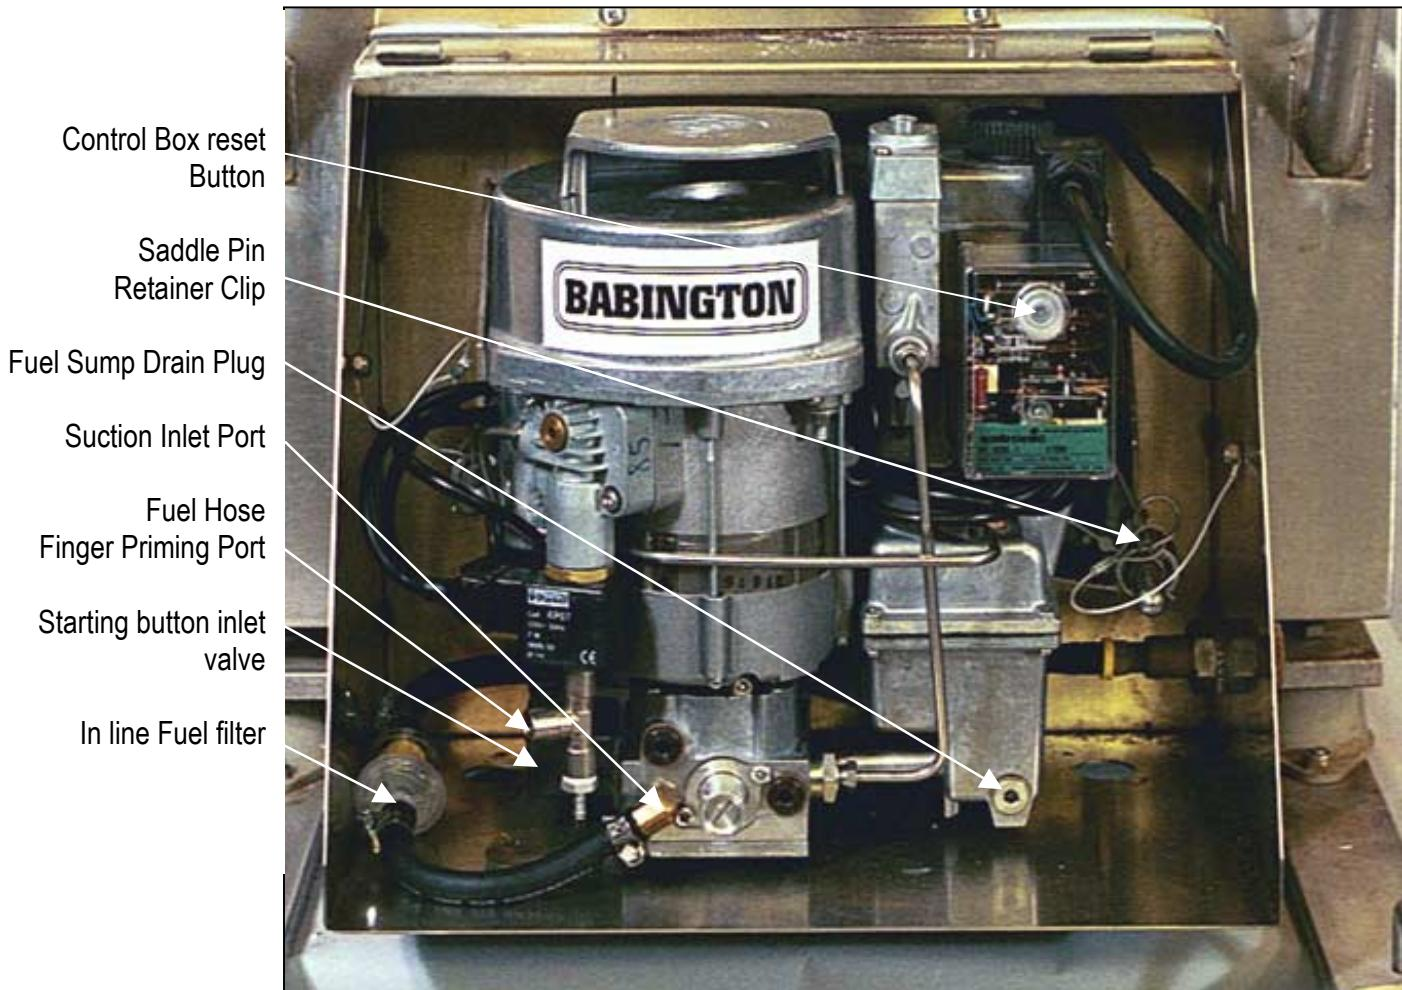

Figure 1-7. Airtronic Burner Fuel Supply System
c. Airtronic Burner Fuel Supply System. Figure 1-7 portrays the fuel system; table 1-4 contains pertinent fuel system data. The 5-gallon fuel supply, independent of the vehicle supply, is easily installed/deinstalled for use inside the HMMWV or for use in static situations. A quick-disconnect Swagelok on the fuel line permits separation of the fuel source from the Airtronic Burner without spilling fuel line contents.